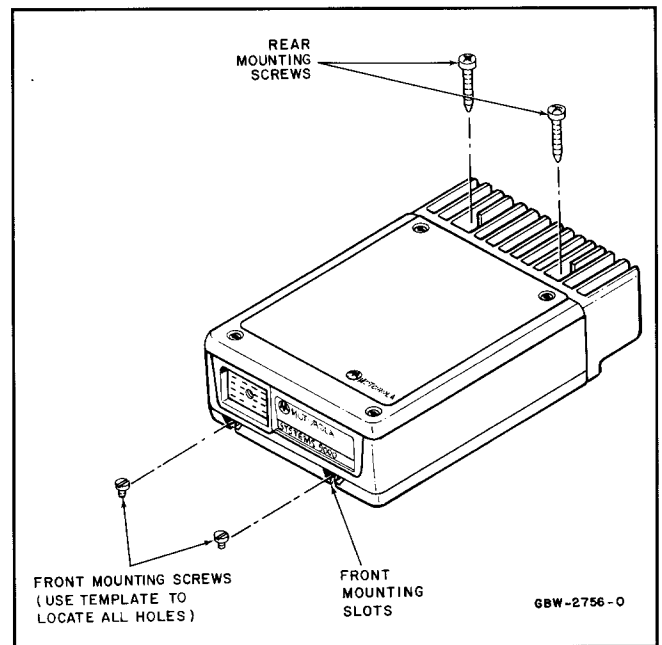
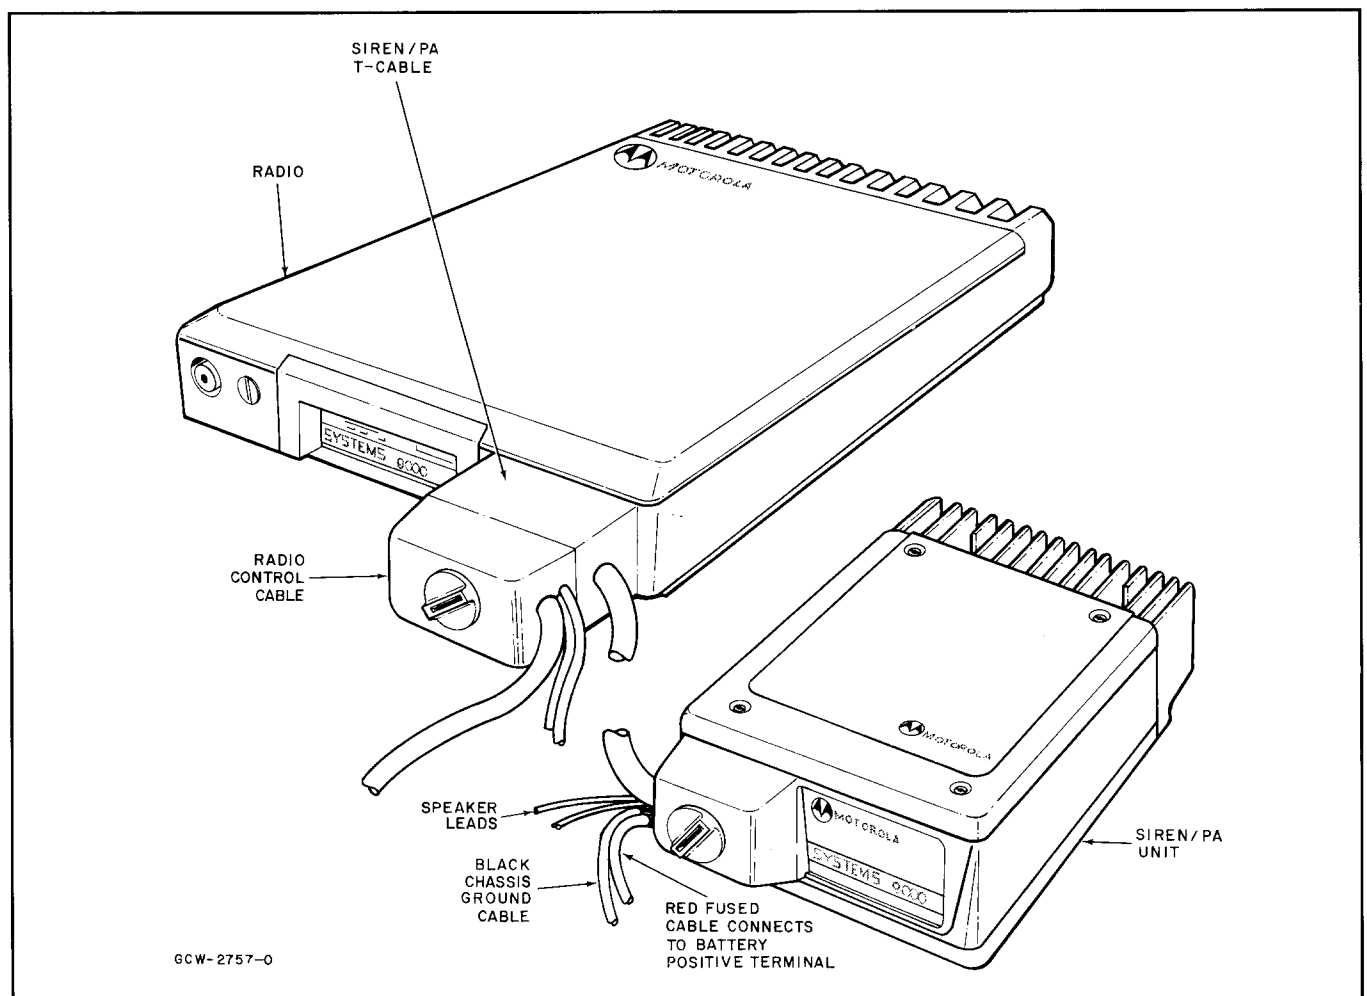

Figure 3. Installing the Siren/PA
Figure 4. Siren/PA Cable Connections
(1) Choose a location where the mounting screws will not penetrate the gas tank, fuel lines, or other vital parts of the vehicle. The Siren/PA unit must be mounted on a flat surface using all four mounting screws. The raised shelf in some car trunks makes a good mounting location. The unit must be mounted near the radio so that the T-cable will reach between the radio and the Siren/PA. Consider the routing of the red power cable and a good location for the black chassis ground cable before selecting the mounting location.
(2) Locate and drill four mounting holes according to the location dimensions and hole specifications shown on the template drawing.
(3) Install the two front mounting screws, leaving the heads high enough above the mounting surface to permit the screw heads to properly engage in the mounting slots on the front of the Siren/PA (See Figure 3).
(4) Slide the front of the chassis onto the screws, adjusting screw height as necessary.
(5) After the front is properly engaged, install the two rear screws through the mounting holes in the heatsink; tighten the screws.
(6) Connect the red fused cable to the positive battery terminal and the black ground cable to the vehicle's chassis (See Figure 4).
(7) Disconnect the main radio cable and attach the T-cable between the Siren/PA and the radio. Connect the radio cable to the back of the T-connector.
(8) See paragraph 4.6 for speaker connections.